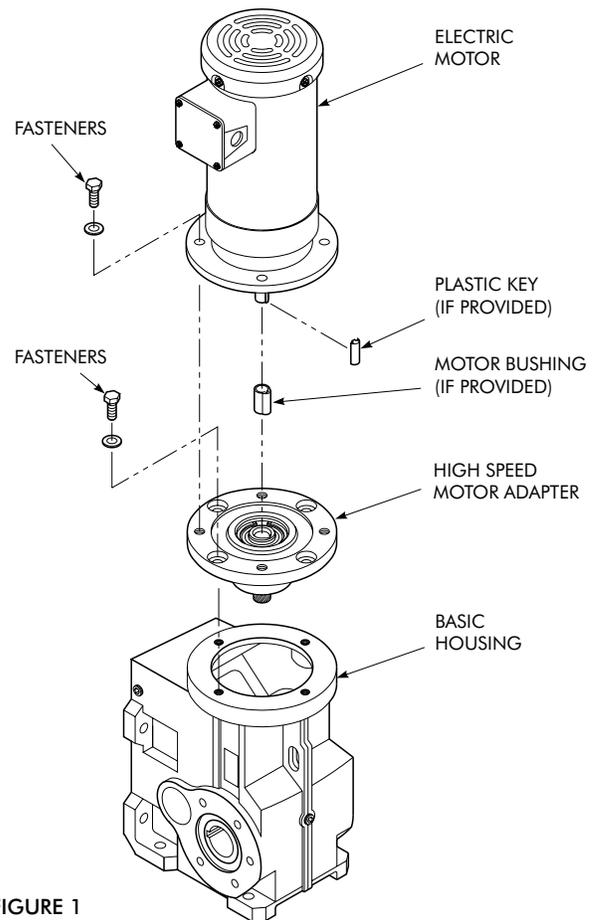

FIGURE 1
PROCEDURE G — Figure 1
- Place basic housing on a workbench so that high speed end is facing up as illustrated in Figure 1. If necessary, block housing so that it is stable and level.